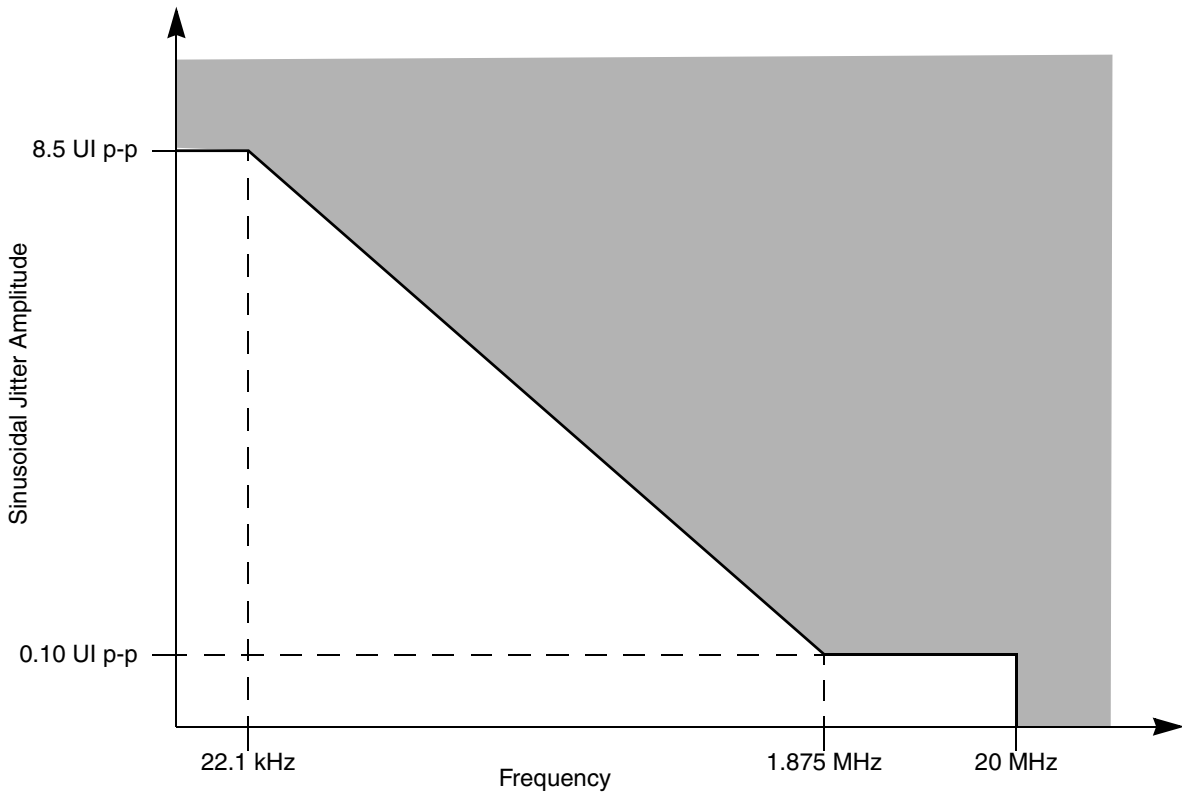

Figure 53. Single Frequency Sinusoidal Jitter Limits
- Total jitter is composed of three components, deterministic jitter, random jitter, and single frequency sinusoidal jitter. The sinusoidal jitter may have any amplitude and frequency in the unshaded region of Figure 53. The sinusoidal jitter component is included to ensure margin for low frequency jitter, wander, noise, crosstalk, and other variable system effects.
1. Total jitter is composed of three components, deterministic jitter, random jitter and single frequency sinusoidal jitter. The sinusoidal jitter may have any amplitude and frequency in the unshaded region of Figure 53. The sinusoidal jitter component is included to ensure margin for low frequency jitter, wander, noise, crosstalk and other variable system effects.